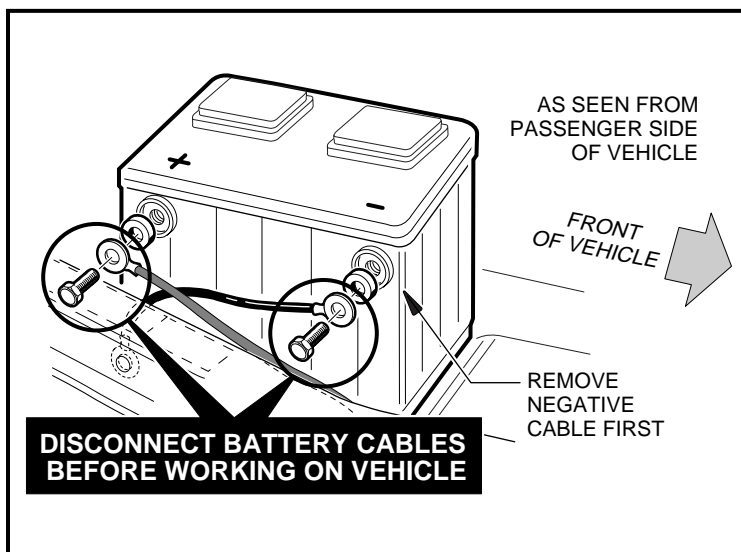

Figure 12-1 Battery Disconnect
- Disconnect battery cables, negative cable (–) first (Figure 12-1, Page 12-2).
2. Disconnect the battery cables, negative cable (–) first (Figure 12-1, Page 12-2).